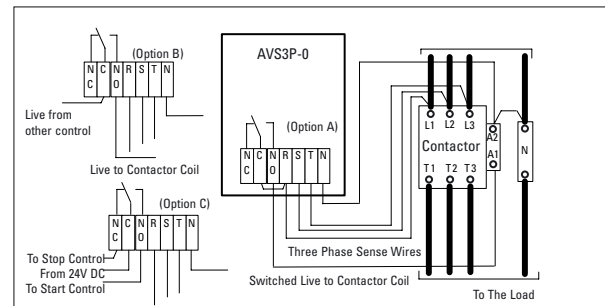

Figure 1. AVS3P-0 wiring diagram
1. Connect the AVS in accordance with the wiring diagram opposite (fig 1). Ensure that the R, S & T sensing connections to the AVS come from the supply side of the contactor. Note: a good neutral connection must be provided from the supply.
2. The output from the AVS is a changeover relay with volt-free contacts. There is a common (C), a normally open (NO) and normally closed (NC) contacts. When the AVS3P-0 is in the Red or Amber condition then C is connected to NC. When the AVS3P-0 displays Green then C is connected to NO. Make sure that the control current you wish to switch does not exceed the rating of the AVS3P-0 relay (max 16Amps).